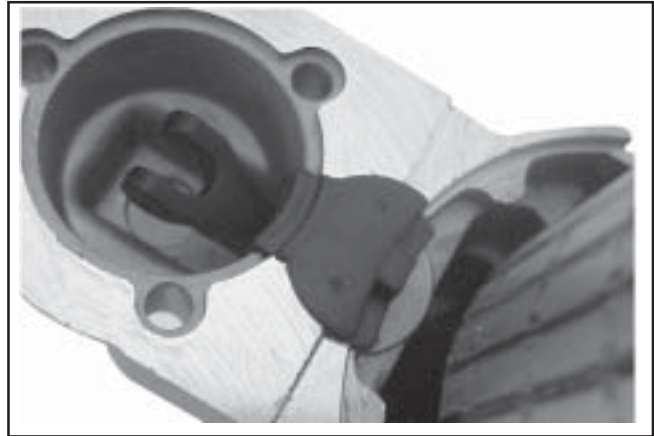

Figure 8-64. Installing Backup Washer and Grommet.
7. Install the backup washer, followed by the rubber grommet, into the matching recess of the drive end cap. The molded recesses in the grommet should be "out", matching and aligned with those in the end cap. See Figure 8-64.